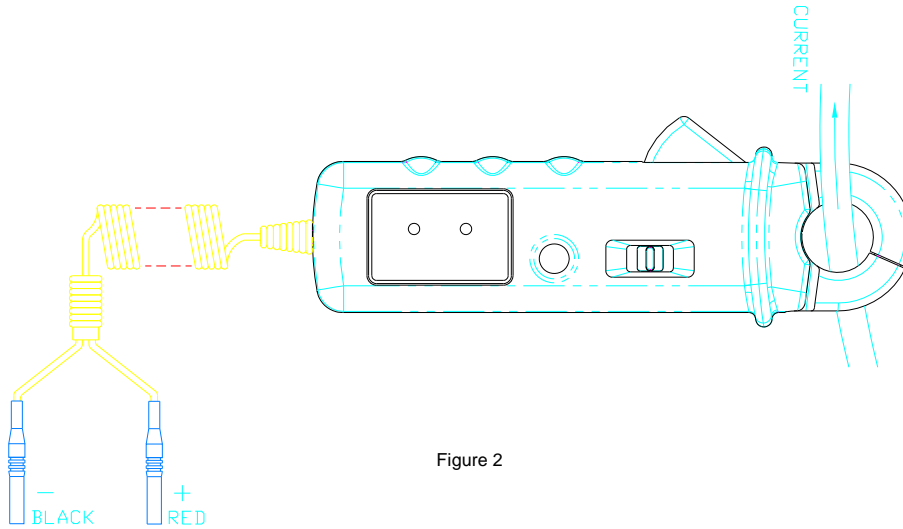

Figure 2
4. For DC measurement, output is positive in the red plug when the current flows from the lower side to the upper side of the current clamp as shown in Figure 2. (Upper side of the current clamp is facing the positive measurement contact)